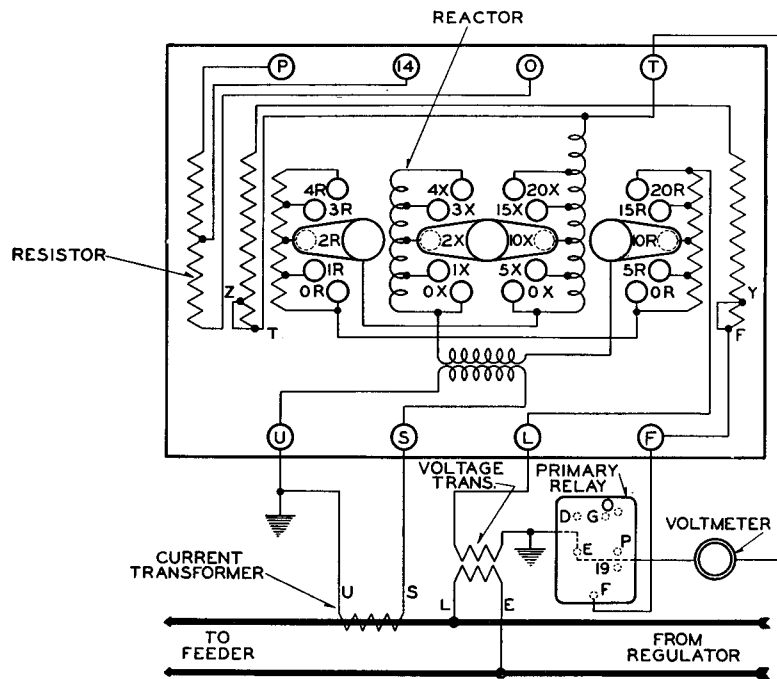

FIG. 16—DIAGRAM OF CONNECTIONS FOR TYPE KD COMPENSATOR
82. The Type KD compensator in appearance is the same as the Type KC. Diagram, Fig. 16, shows the internal connections and the method of connecting it to the line.
83. The compensator consists of a resistor and reactor with taps as shown in the diagram, Fig. 16. A series insulating transformer, mounted within the compensator case, is used in order that both the current and voltage transformers may be grounded. This compensator has quite an appreciable loss at full load with maximum compensation, as the resistor must carry 5 amperes at 24 volts resulting in a loss of 120 watts. The voltmeter, unless specially recalibrated will read about 2½% low. If designed for a lower loss the voltmeter error would be increased.